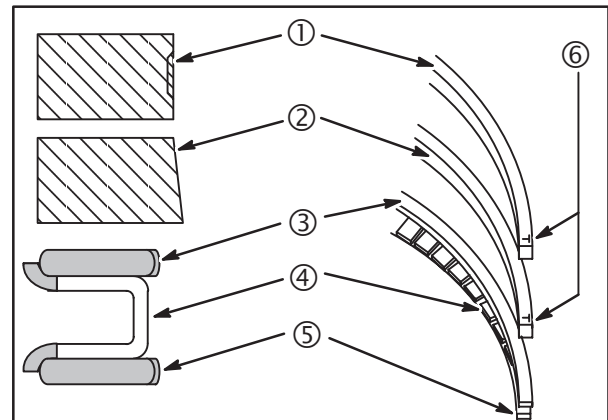

Fig. 10
Install rings in order shown, **Fig. 10**. Use Piston Ring Expander, #19340 when installing center (2) and top (1) compression rings.
1. Install oil ring expander (4).
- a. Install lower scraper ring (5).
- b. Install upper scraper ring (3).
2. Install center compression ring (2) with ID mark (6) up.
3. Install top compression ring (1) with ID mark (6) up.